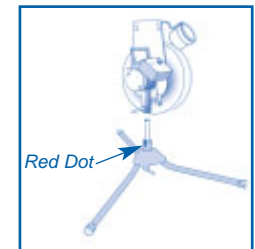

Figure 10
- B. Place the “top” of JUGS onto the shaft of the base assembly. (see Figure 10).